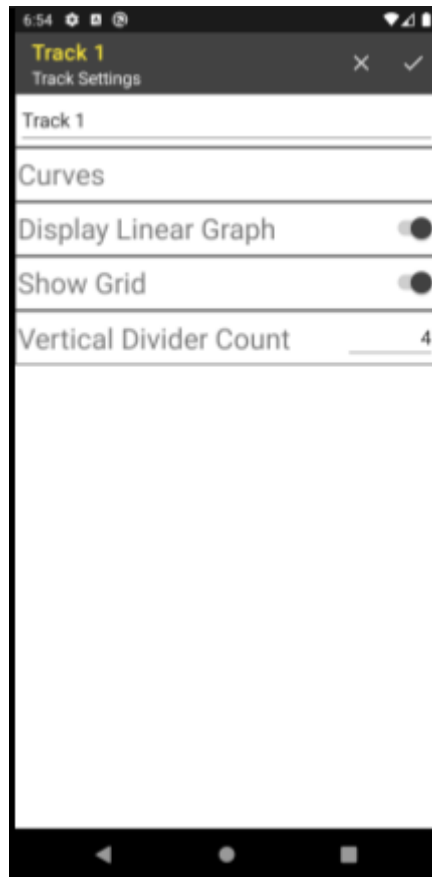
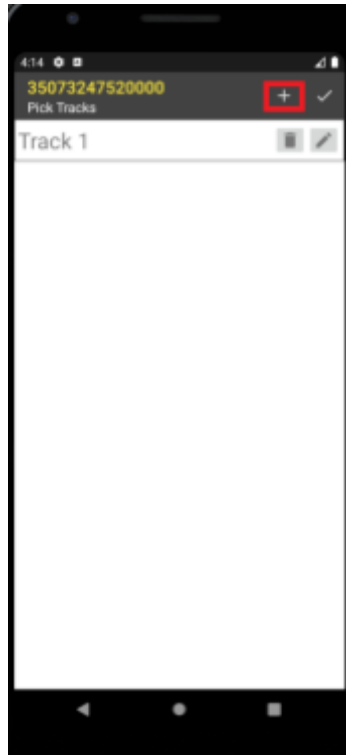

Figure 5
Figure 7
8. You should now have a screen similar to **Figure 5**.
14. You are now back at the track settings screen seen before in **Figure 5**. **Make sure the “Display Linear Graph” is toggled ON for this track.** There are a few more settings such as Show Grid and Vertical Divider Count that will affect how the track/graph itself displays, but will be left to their defaults. Press the check mark button in the upper right corner to finish setting up this track.
15. You have now successfully set up two log curves to display in Track 1, the spontaneous potential (SP) and Gamma Ray (GR).
16. We will now add one more track to display resistivity curve data. Press the “+” button in the upper right to add another track as shown in **Figure 7**.